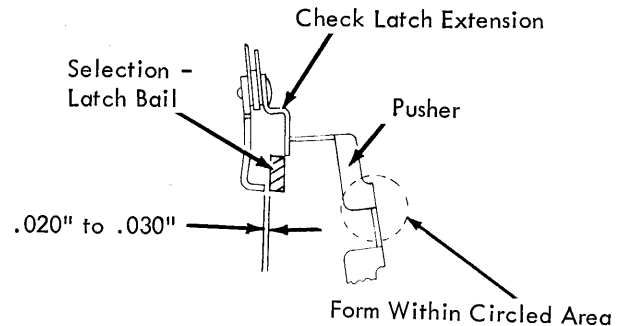

FIGURE 26. Check Latch Pusher
4. Check Latch Pusher (Fig. 26) - Form so that the check latch clears the selection bail by .020" to .030". This clearance must be observed with the selection bail lowered slightly.